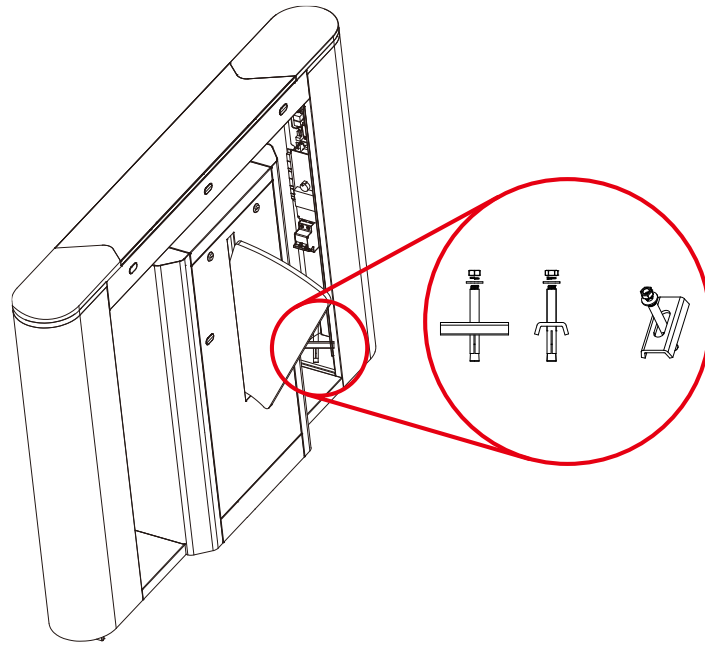

Figure 3-3
**Note:** Eight expansion screws must be completely inserted, as shown in Figure 3-3.